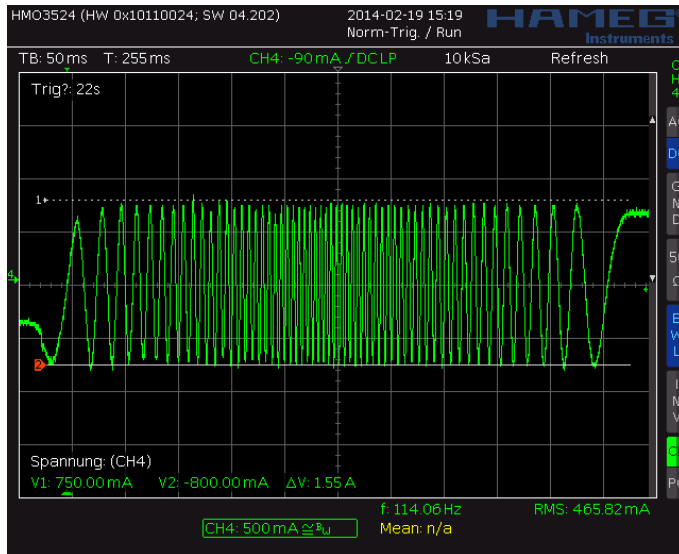
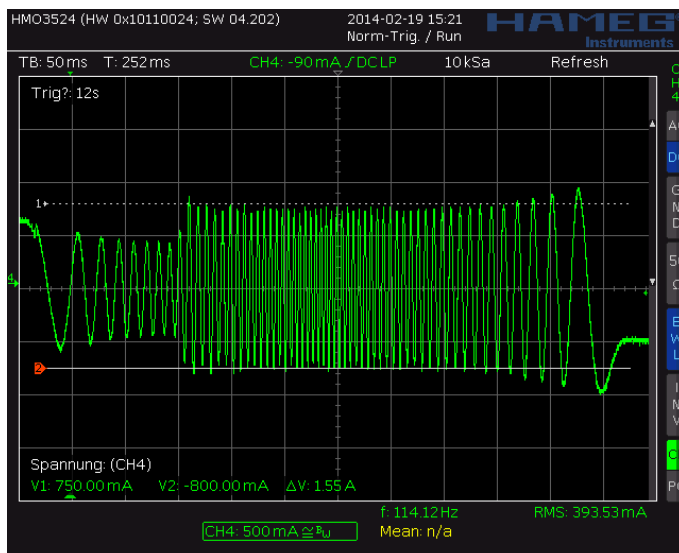
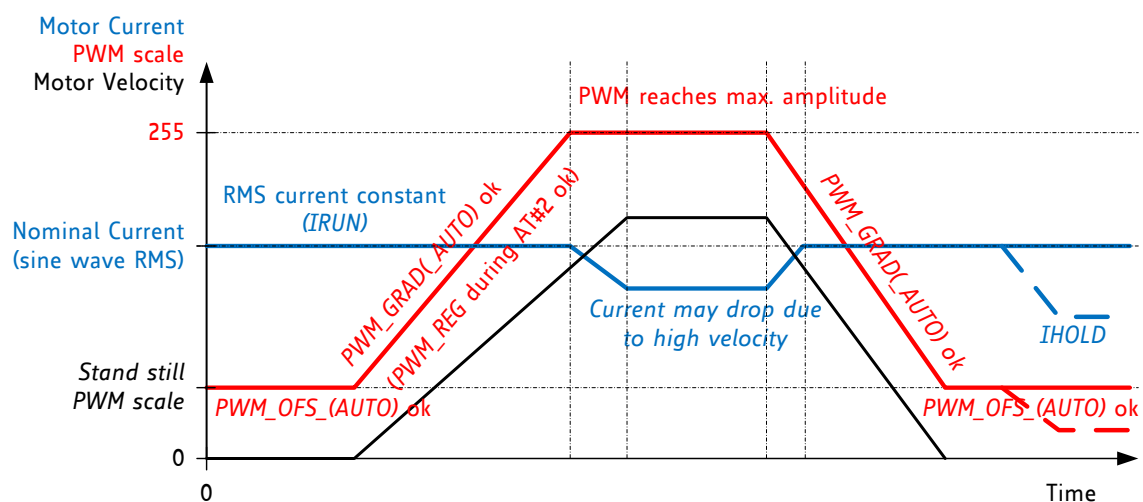

Figure 6.3 Scope shot: good setting for PWM_REG
Figure 6.4 Scope shot: too small setting for PWM_REG during AT#2
Figure 6.5 Successfully determined PWM_GRAD(AUTO) and PWM_OFs(AUTO)
In StealthChop voltage PWM mode, the autoscaling function (*pwm_autoscale* = 1, *pwm_auto_grad* = 1) regulates the motor current to the desired current setting. Automatic scaling is used as part of the automatic tuning process (AT), and for subsequent tracking of changes within the motor parameters. The driver measures the motor current during the chopper on time and uses a proportional regulator to regulate *PWM_SCALE_AUTO* in order match the motor current to the target current. *PWM_REG* is the proportionality coefficient for this regulator. Basically, the proportionality coefficient should be as small as possible in order to get a stable and soft regulation behavior, but it must be large enough to allow the driver to quickly react to changes caused by variation of the motor target current (e.g. change of *VREF*). During initial tuning step AT#2, *PWM_REG* also compensates for the change of motor velocity. Therefore, a high acceleration during AT#2 will require a higher setting of *PWM_REG*. With careful selection of homing velocity and acceleration, a minimum setting of the regulation gradient often is sufficient (*PWM_REG*=1). *PWM_REG* setting should be optimized for the fastest required acceleration and deceleration ramp (compare Figure 6.3 and Figure 6.4). The quality of the setting *PWM_REG* in phase AT#2 and the finished automatic tuning procedure (or non-automatic settings for *PWM_OFS* and *PWM_GRAD*) can be examined when monitoring motor current during an acceleration phase Figure 6.5.